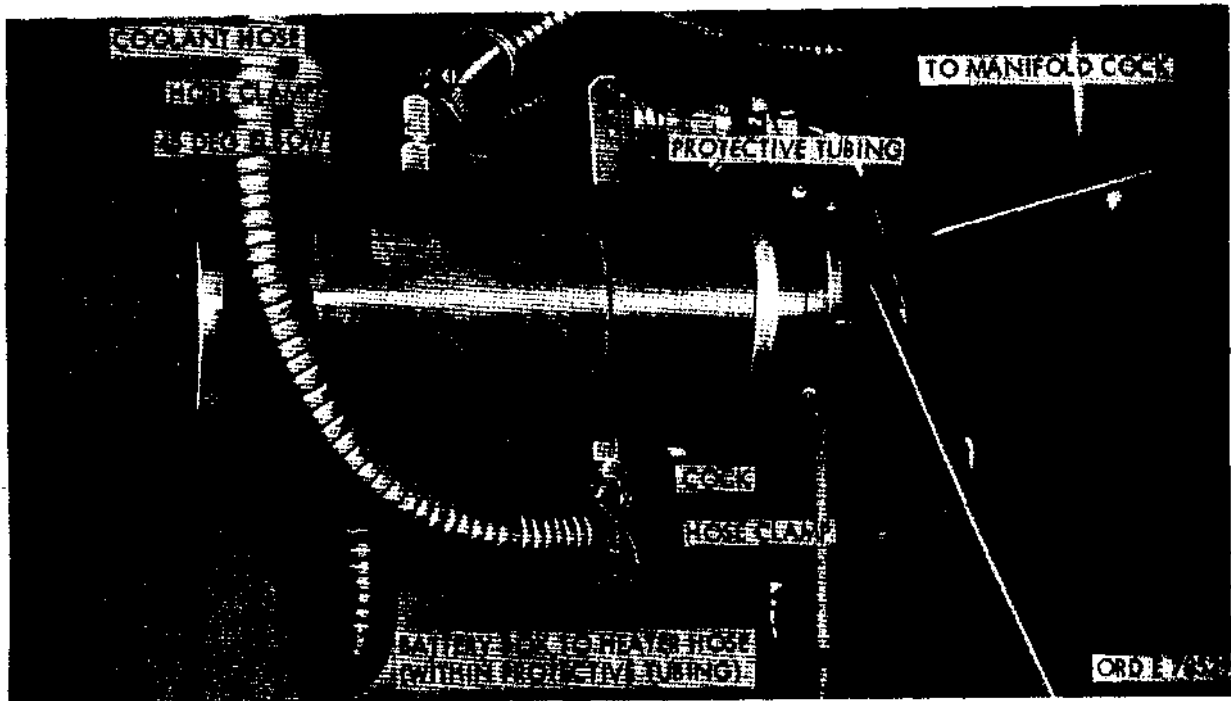

Figure 702. Completing installation in battery compartment.
- (5) Screw cock 596800 and bushing 120322 into bottom of coolant heater (fig. 702).